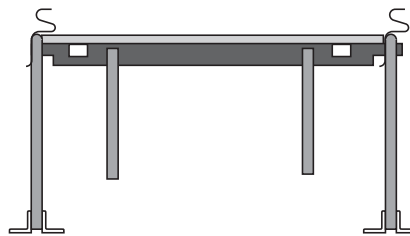

Figure 3
**A. Direction of Top Chord:** It is necessary that all top chords face the same direction within a section of Hambro slab. As you will note from Figure 3, the forms butt on one side of the top chord, but tuck under on the opposite side in order to facilitate the stripping of the plywood. See the installation drawings for orientation and placement of the tagged I.D. end with respect to the bearing location. If the joists are not installed as indicated, forms will not fit properly (the plywood forms will be too wide or too narrow to suit the joist spacing).